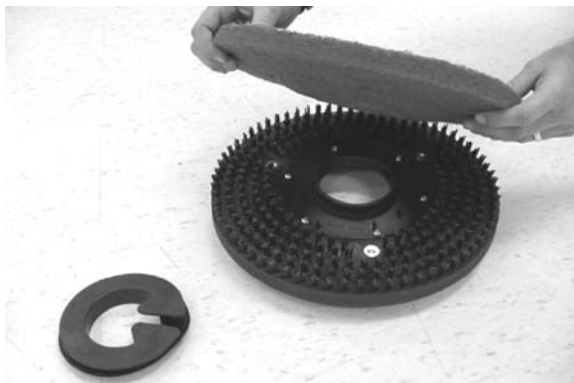

FIG. 9
- (For Pad Installation)** Attach pads to pad drivers before connecting drivers to motor hub. To attach pad to driver, remove plastic centerlock ring from pad driver. Position pad on pad driver and replace centerlock ring (Figure 9).